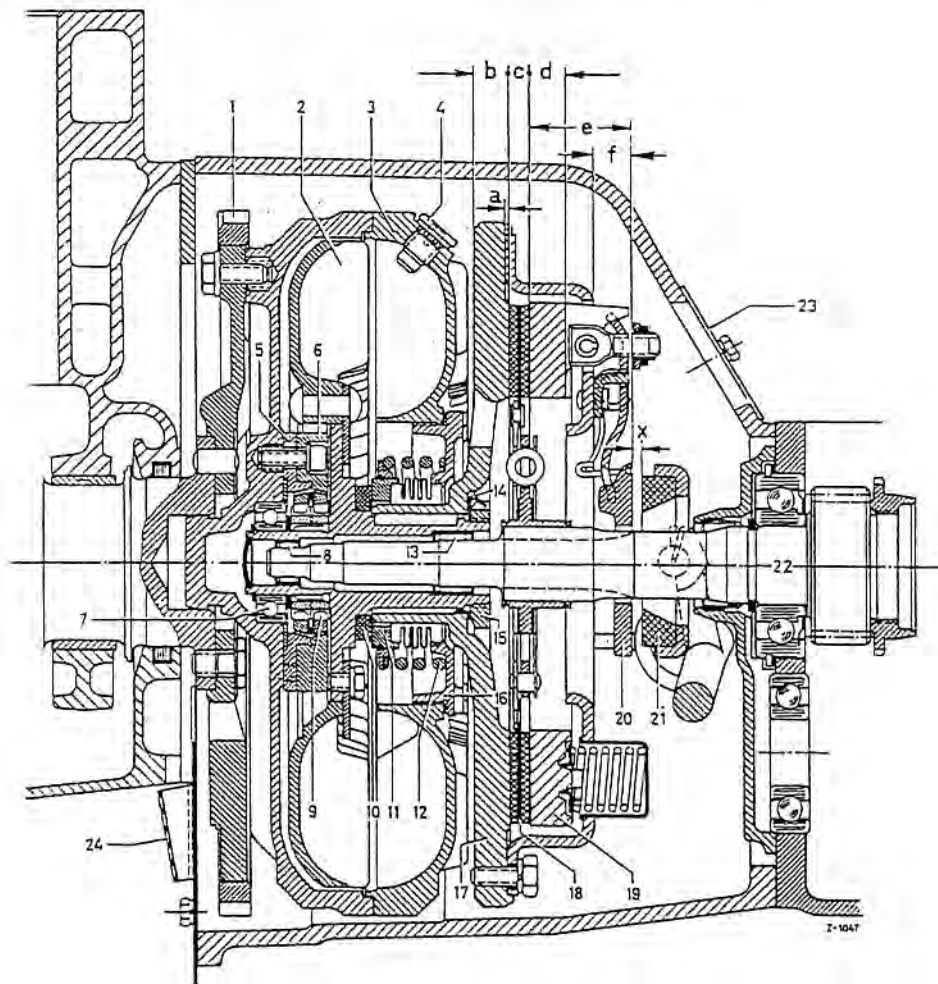

Fig. 25-10/4
In place of the clamping plate free-wheel unit (9) (see Fig. 25-10/5) a screw-type free-wheel unit (9) has now been installed (Fig. 25-10/4).
Sealing of the hydraulic coupling on the mechanical clutch side is done by means of a specially constructed axial seal. The graphite ring (10) is pressed hard against the sealing surface of the flange shaft of the secondary member by means of a thrust ring on which pressure is exerted by the spring (12) (Fig. 25-10/4). The seal between the thrust ring and the threaded ring which is screwed into the clutch end plate, takes the form of a metal bellows which connects the two parts and acts as a cushion.